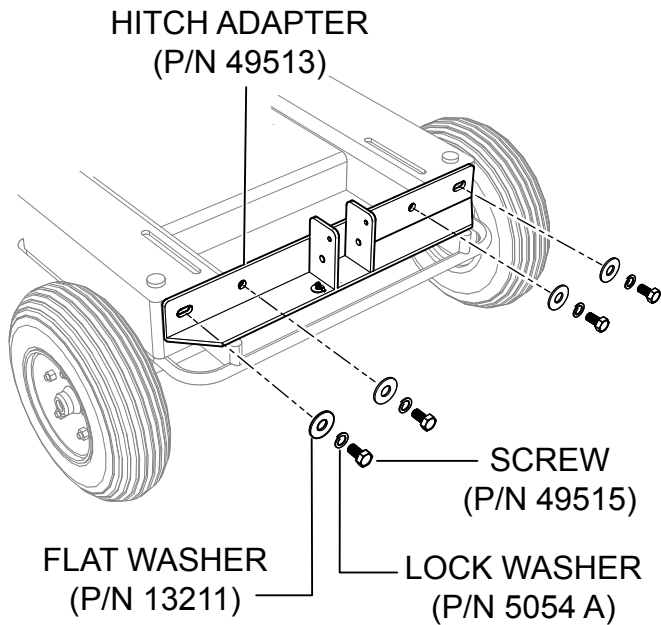

Figure 2. Hitch Adapter Installation
1. On the front end of the cart, install the hitch adapter with the associated hardware as shown in Figure 2.